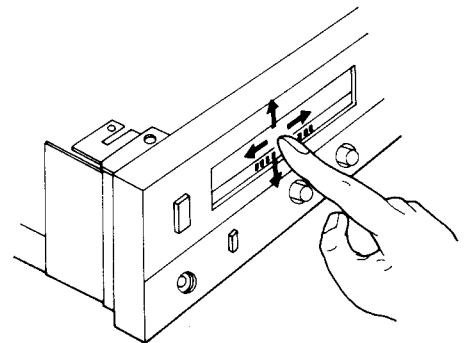
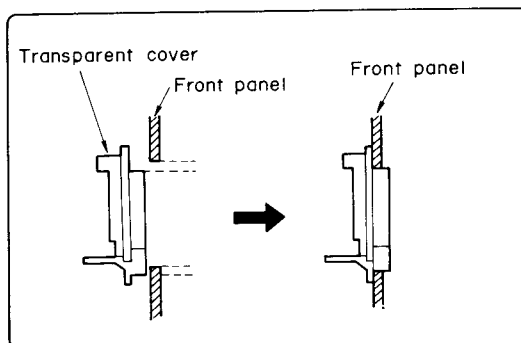

Fig. 6
Fig. 7
5. Fit the transparent cover of FL meter in the front panel window as in Fig. 7 by moving it with fingers as in Fig. 6.